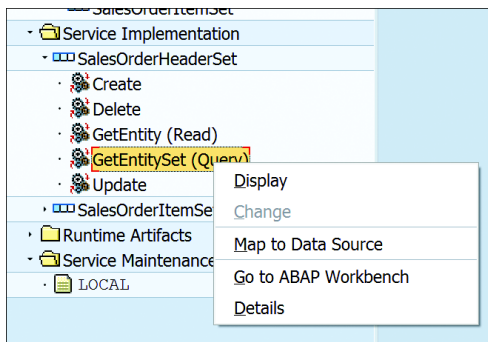

Figure 19.116 Map Data Source
1. First, expand the SERVICE IMPLEMENTATION folder and then SALESORDERHEADERSET. Right-click GETENTITYSET (QUERY) and select MAP TO DATA SOURCE, as shown in Figure 19.116.